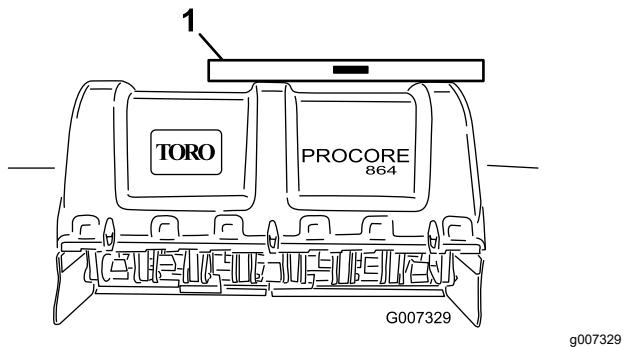

Figure 15
- Place a level on top of the frame of the machine to check it for level side-to-side (Figure 15).